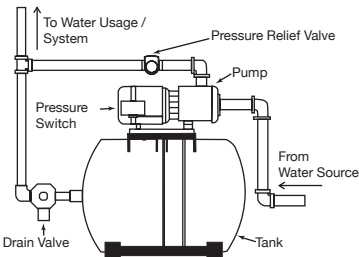
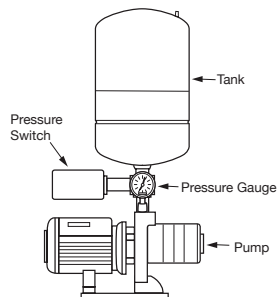

Fig. 1.4 Booster Pump w/ Horizontal Tank
Fig. 1.5 Booster Pump w/ Inline Tank
- 2 Once the fitting is securely tightened, be sure that the threaded holes for your pressure switch and pressure gauge on the tank connection fitting are in the upward position. (See vertical tank examples Figures 1.1, 1.2, and 1.3, horizontal tank example Figure 1.4 and inline tank example Figure 1.5).